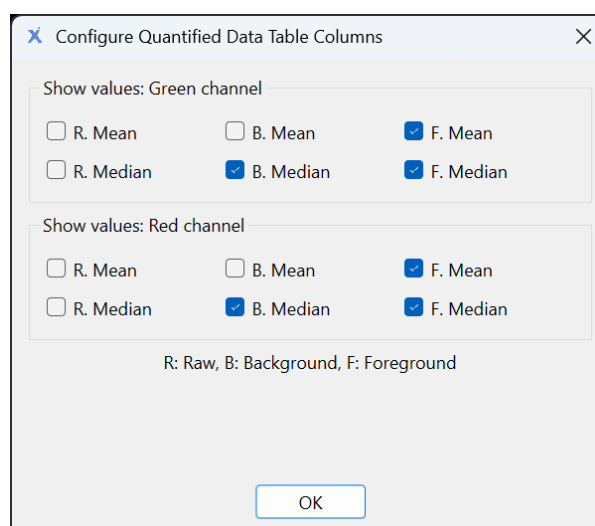

Figure 25: Configure Visible Data Columns.
- In the dialog (Figure 25), select or deselect the checkboxes for the columns you want to display.